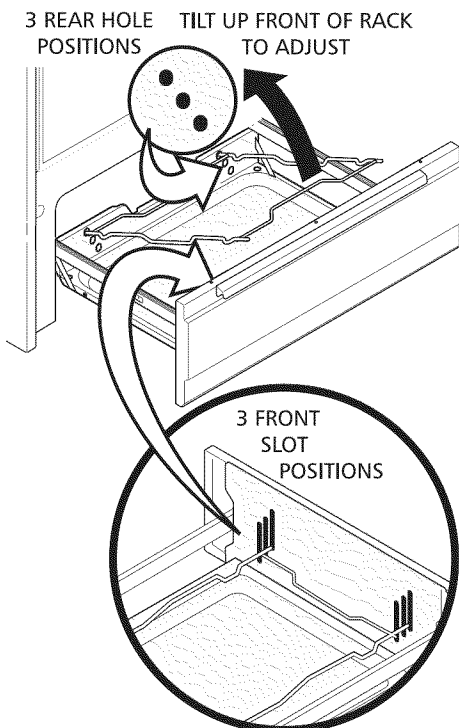

Fig. 2
4. Position rack by tilting front of rack up and pulling rack out from locating holes in rear of broiler drawer. Reposition back of rack in the desired locating holes and allow front of rack to slide down into the corresponding slots in front of broiler drawer (See Fig. 2).